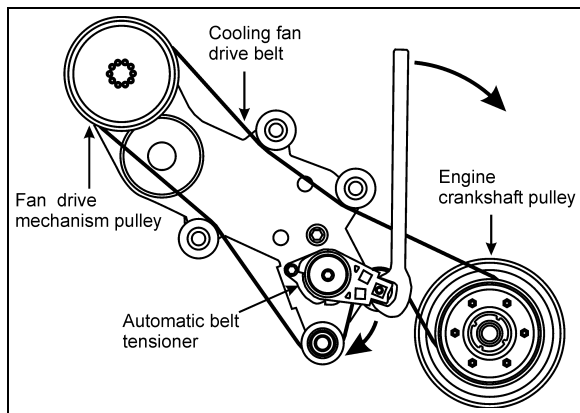

FIGURE 22: DRIVE BELT ROUTING
- Wrap the new drive belt around the fan drive mechanism pulley, the idlers and the automatic tensioner idler as shown on figure 22.
- Using a  $\frac{1}{2}$ " breaker bar or a  $1 \frac{1}{2}$ " open end wrench, rotate the automatic tensioner in clockwise direction to relieve tension on the belt and hold the tensioner in that position (Fig. 22).